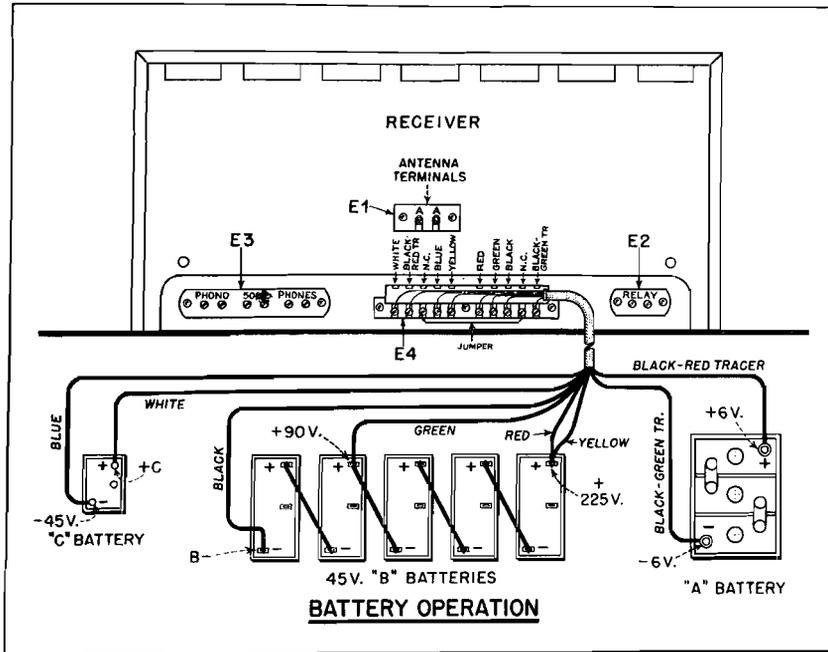

FIG. 4—Connections for power cable battery operaton.
b. *Connection for Battery Operation*—A cable for use in battery operation is available on special order. This cable (W2 in Parts List) has only one terminal strip. The other end of the cable is made up of eight loose wires. Connect this cable according to FIG. 4 (note the color code for the eight loose wires), or make up connections to serve the purpose. Connect the battery cable to the Receiver *first* and replace the terminal cover *before* making connections to the batteries. When disconnecting battery operation, disconnect the battery cable from the receiver. All operations of the Receiver are the same with either the Power Supply or the battery set-up.